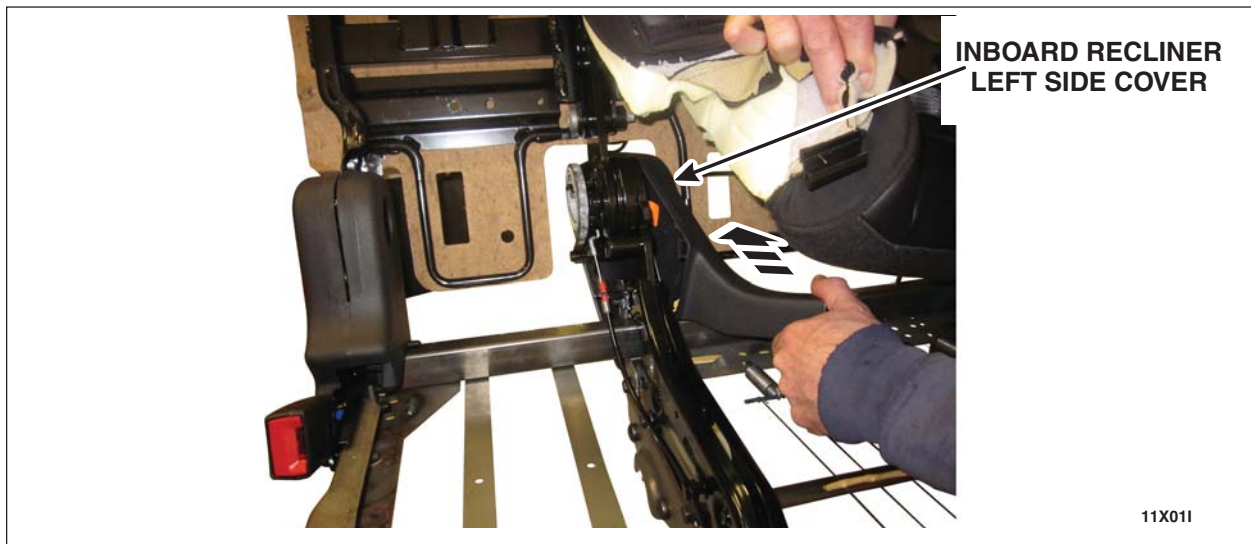

FIGURE 10
25. Remove the inboard recliner left side cover from the recliner and slide backwards through the back of the seat. See Figure 10.